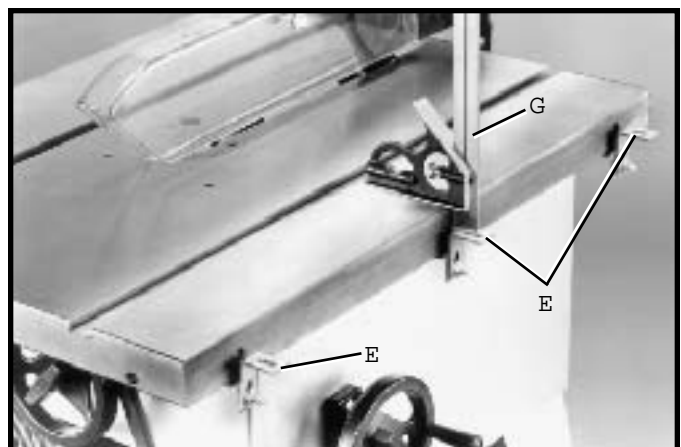

Fig. 44
5 Using a square (G) Fig. 44, set the angle brackets so they are approximately 3/4" from the top of the saw table. Final adjustments to angle brackets will be made later.